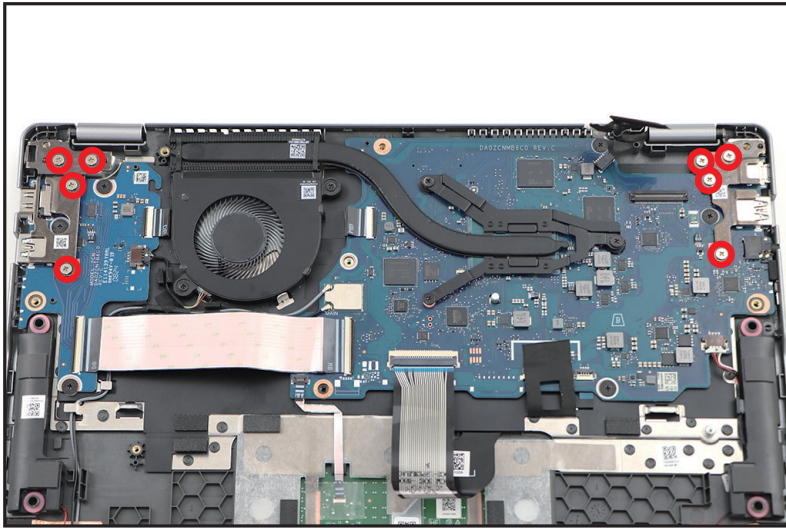

Figure 1-14. LCD Module Removal
2. Remove eight (8) screws securing the LCD hinges in place (Figure 1-14).